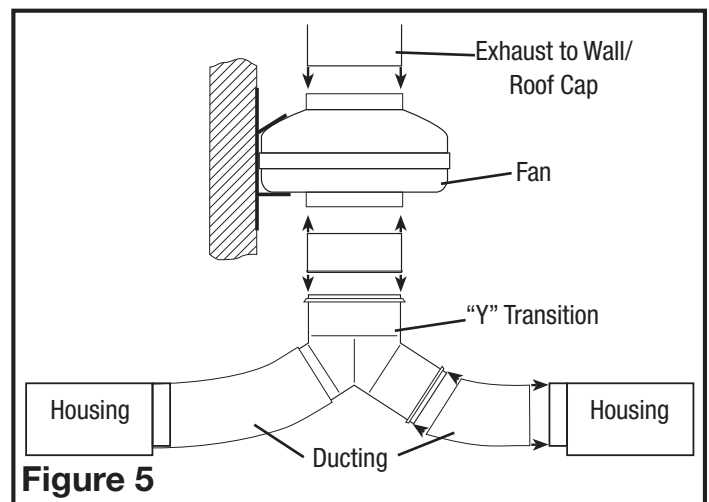

Figure 5
1. Connect one end of the ducting (not included) to the room level collar/damper and the other end to the "Y" transition. Secure both ends in place using tape or a screw clamp to create as air tight a seal as possible. Repeat this step for the other room level grill housing (Figure 5).
3. Connect one end of the ducting to the top of the "Y" transition and the other end to the intake of the fan (**Figure 5**).
4. Connect one end of the ducting to the exhaust of the fan and the other end to a wall or ceiling cap (**Figure 5**). Always duct the fan to the outside through a wall or roof cap.